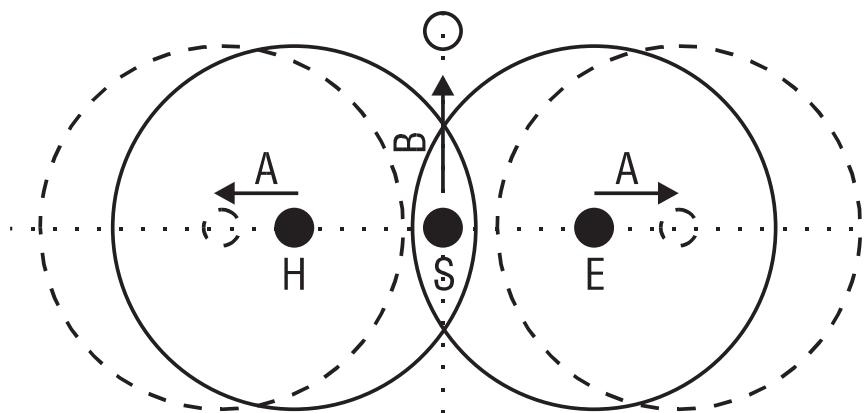

Figure 6.5.2 Voltage funnel
- B:** position the earth rod for the probe to one point of the line outside the voltage funnel, as shown in Figure 6.5.2, and repeat the measurement.